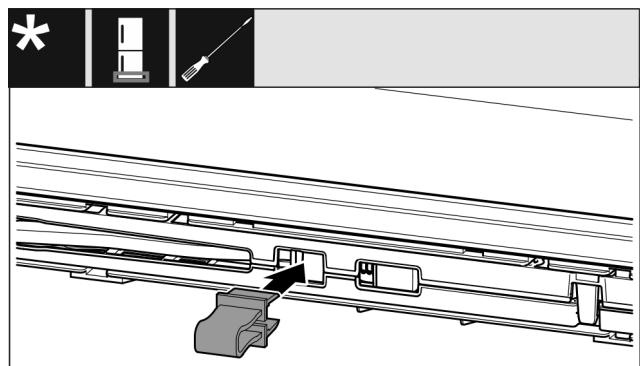

Fig. 12
- ▶ Engage the locking device in the opening Fig. 12 0.